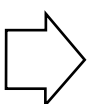

Figure 1: Removing lower housing section
- Release wire clamp latches and remove lower housing section (see Fig. 1).
- Position the wire clamp latches in the groove on the flange on the middle housing section and tighten (same as Fig. 1 but in reverse).